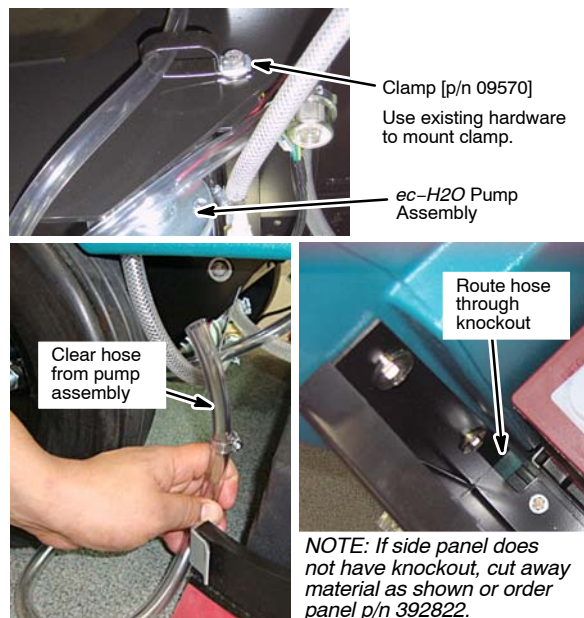
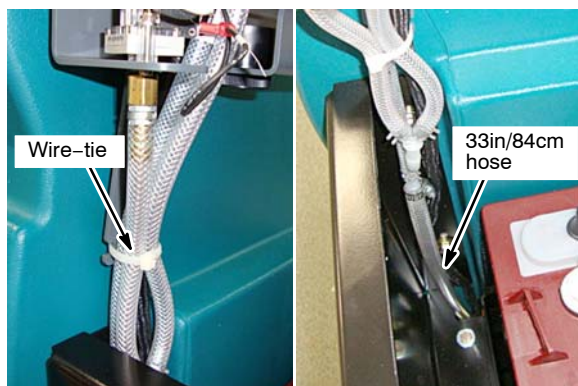

Fig. 27
Fig. 34
7. Install clamp [p/n 09570] to frame as shown and route the clear hose from the pump assembly through clamp and up into battery compartment (Figure 27).
7. Secure hoses with wire-tie as shown and route the 33 inch/84 cm length hose through the battery compartment knockout (Figure 34). Route hose through clamp as shown in Figure 27.
9. Connect the clear hose from the pump assembly (Figure 27) to the Y-Fitting from the module assembly as shown (Figure 36).